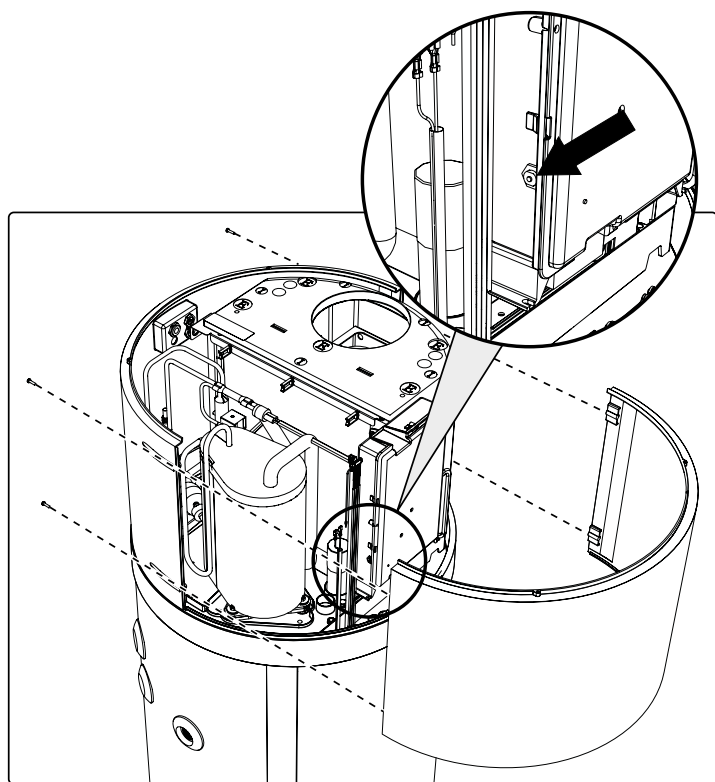

fig. 84- Front panel removal
- Remove the front panel and manually reset the tripped safety thermostat (fig. 84). In case of intervention, the central pin of the thermostat comes out by about 2 mm.